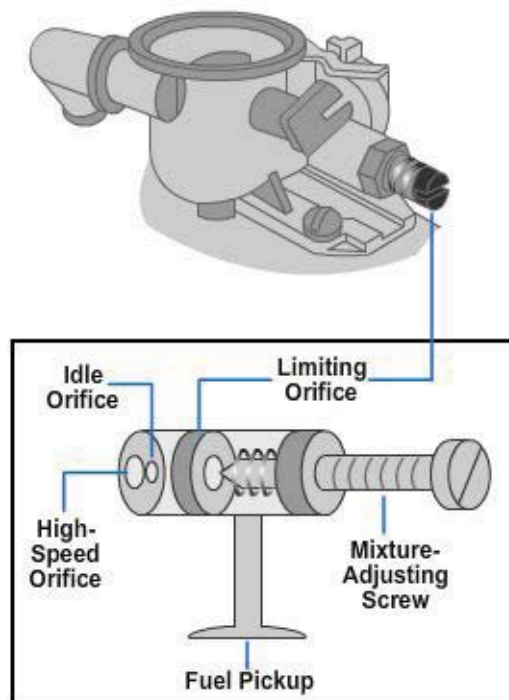

Figure 5-17 – Limiting orifice.
- **Single mixture adjustment screw.** The amount of fuel flow through the single tube is regulated and adjusted by a single screw and a limiting orifice which affects both the high- and low-speed mixture adjustment. The limiting orifice, as shown in *Figure 5-17*, does not allow excess fuel to enter and wash down the oil from the cylinder wall.